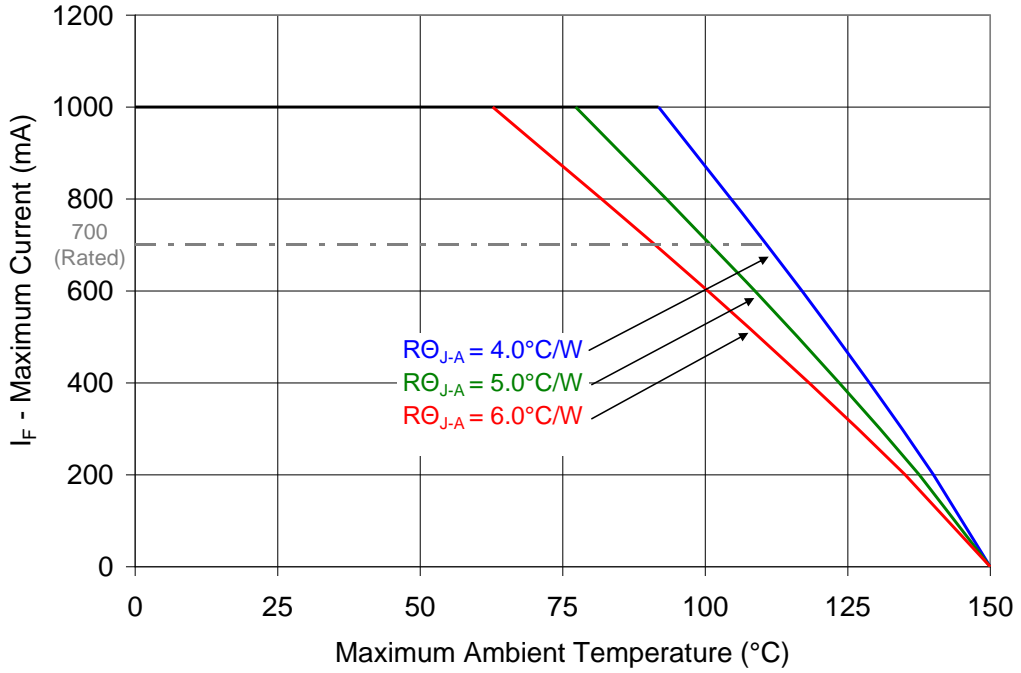

Figure 10: Maximum forward current vs. ambient temperature based on T_{J(MAX)} = 150°C
- Maximum DC forward current (per die) is determined by the overall thermal resistance and ambient temperature. Follow the curves in Figure 10 for current derating.
Notes for Figure 10: